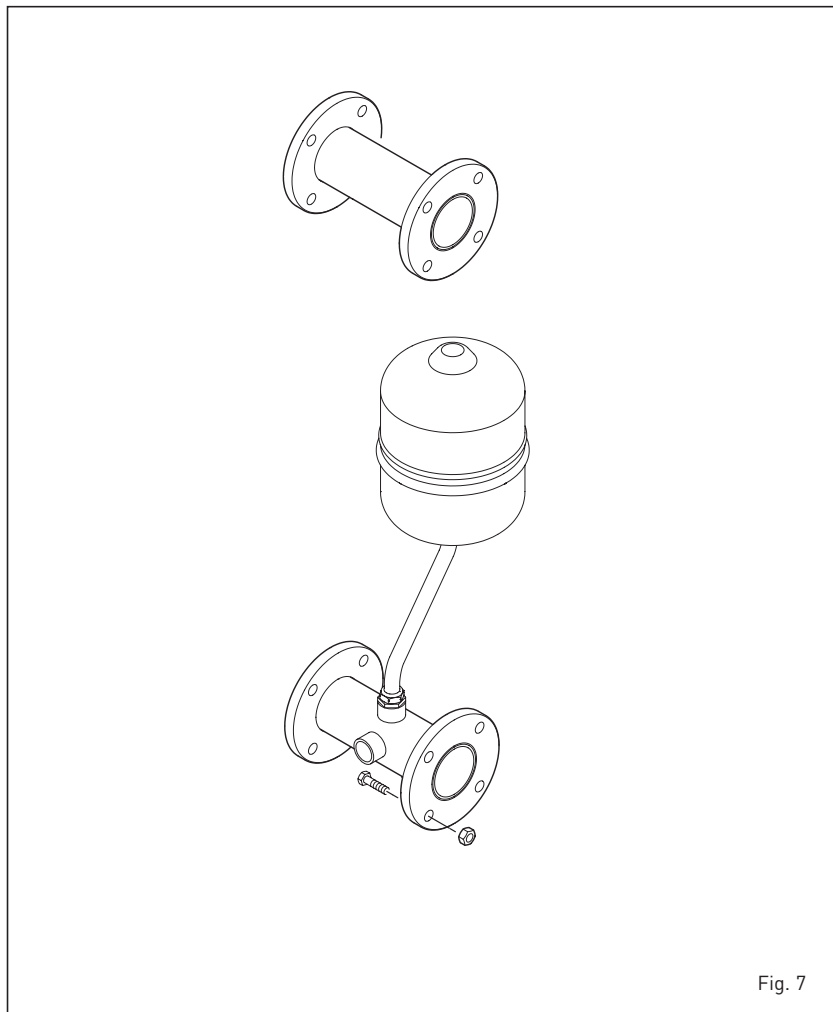

Fig. 7
2.8 TUBES CONNECTING THE HYDRAULIC SEPARATOR KIT (fig. 7)
SIME provides the tubes connecting the hydraulic separator kit code 8101534 for installations with left-hand side attachments. The kit is made up of the following components (fig. 7):